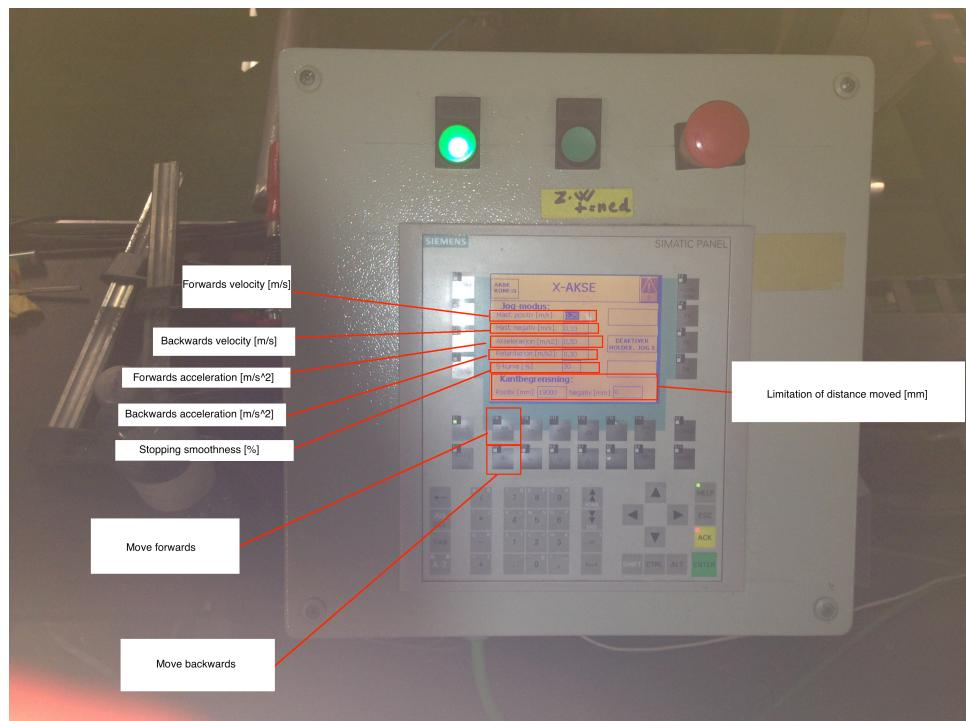

Figure 2: Computer to operate the towing wagon
commands are used. Further, in figure 2, a close up of the computer is shown. An explanation of the different commands, used for our purposes, is presented below.
- Move forwards: Press the button marked as *move forwards* (see figure 2).